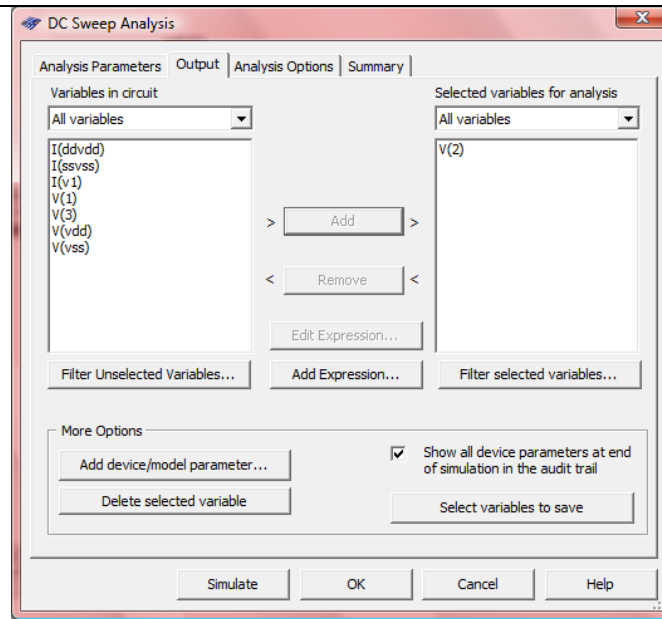

Figure 4.1.6 Output tab of DC Sweep Analysis window.
5. Click on the Output tab, place V(2) in the Selected variables for analysis field, just like you would do for a DC Operating Point Analysis (see Fig. 4.1.6).